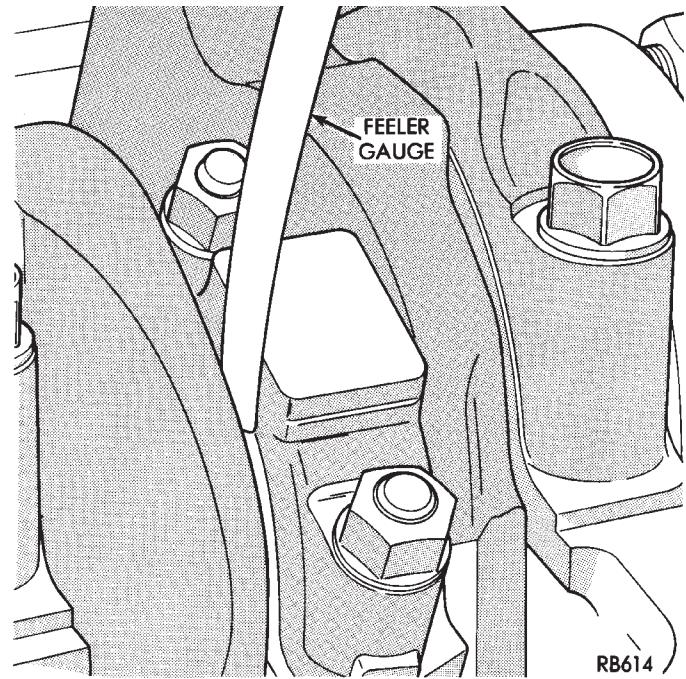

Fig. 18 Checking Connecting Rod Side Clearance
(4) Tighten the nuts to 54 N•m PLUS 1/4 turn (40 ft. lbs. PLUS 1/4 turn). **Do not use a torque wrench for last step.**
(5) Using a feeler gauge, check connecting rod side clearance (Fig. 18). Refer to connecting rod specifications (Fig. 19).